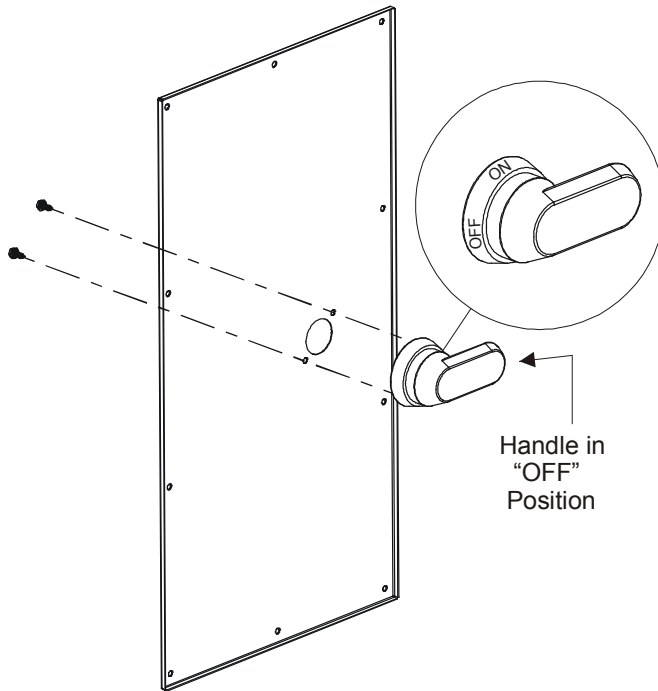

Figure 2
4. Attach Handle Assembly to Disconnect Panel with handle oriented as shown in Figure 2. Make sure the handle is in the "OFF" position.